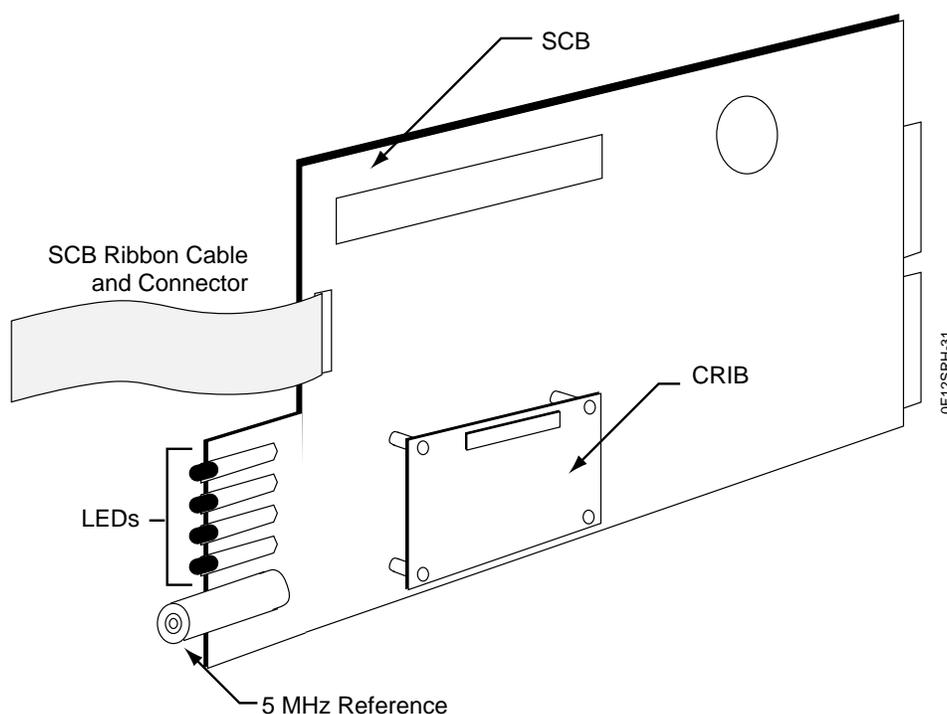

Figure E-7: CRIB Mounted on the SCB
9. Seat the CRIB fully on the standoffs (see Figure E-7).